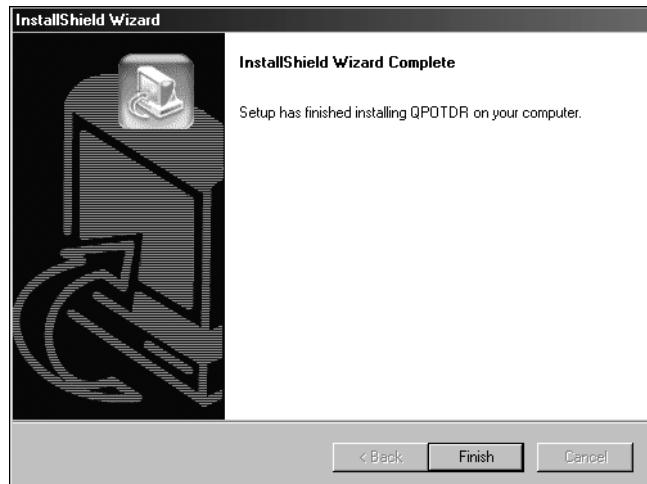

Figure 2-4: InstallShield Wizard Complete dialog
7. The **InstallShield Wizard Complete** dialog appears (see Figure 2-4). Select **Finish** to complete the installation and exit the wizard.